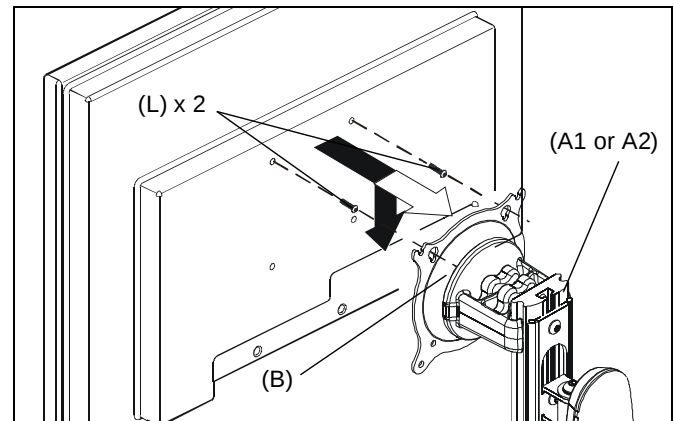

Figure 8
2. Using Phillips screwdriver, carefully install two M4 x 12mm Phillips pan machine screws (L) into the *upper* mounting holes on the display. Thread screws completely into display, then back out 3 complete turns.
3. Pick up and align display so that screws (L) (installed on the back of the display in the previous step) fit into the mounting holes on the Centris bracket; rotate the bracket as required. Lower the display firmly into place. (See Figure 8)